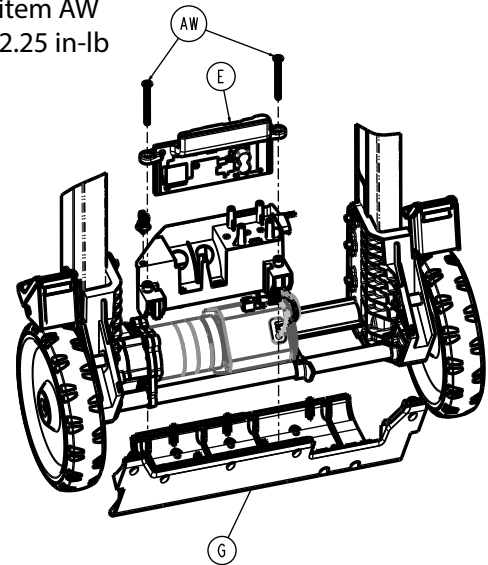

Figure 25 –
3. Using a 1/8" hex wrench, remove the two flat countersunk head cap screws (AW) that secure the power box PCBA (E) to the power box lower cover (G) (Figure 25). Save the screws.
**Note** - Using a torque wrench, torque the flat countersunk head cap screws (AW) to  $15 \pm 2.25$  in-lb when you reinstall.